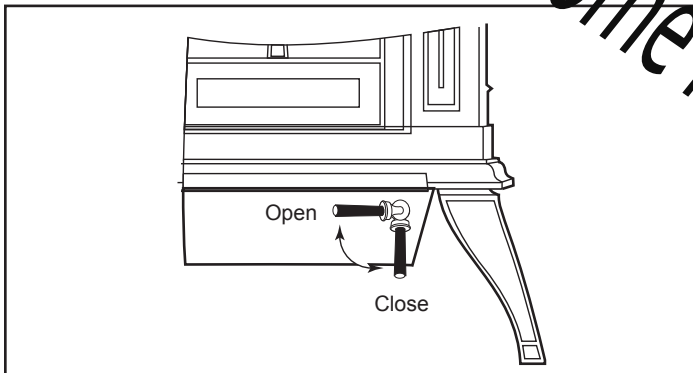

Figure 39- Turn the ash door handle clockwise to open and counterclockwise to close.
- Close the griddle or doors, and unlatch the ash door. (Figure 39) It will pivot, swinging the ash pan out of the stove.